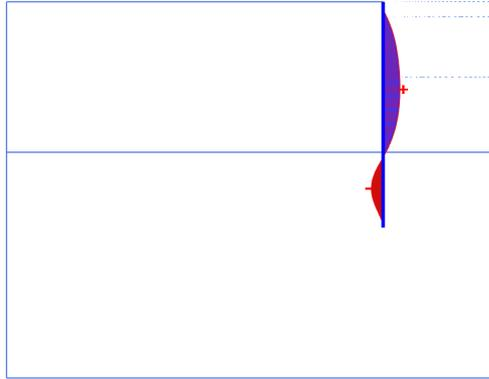

Figure 2.15 Bending moments in the wall
- Select the *bending moment M* from the *Forces* menu. The bending moment in the wall is displayed with an indication of the maximum moment (Figure 2.15).